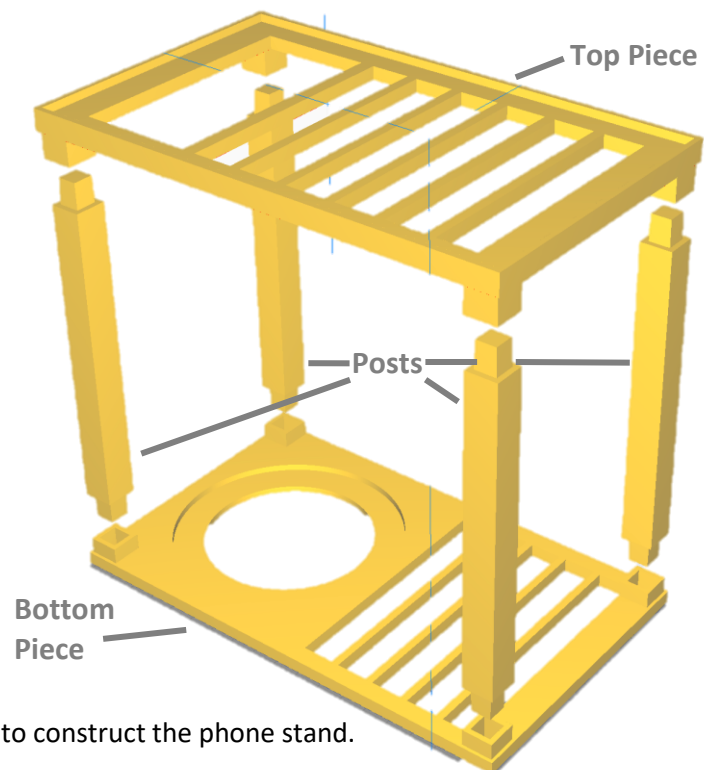

Figure 2.3. A diagram of how to construct the phone stand.
10. To construct the phone stand, place the bottom piece on a flat surface facing up (with the indent for the circular counting slide facing up). Insert one post into each square slot on the corners of the bottom piece. Line up the top piece so that the posts will fit into each square slot (Figure 2.3).